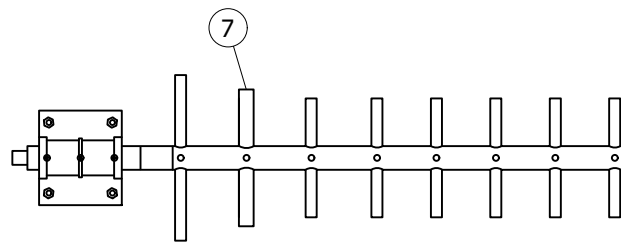

FIGURE 2
- (b) SEE UG4510.1 FIGURE 2.
- (a) SEE UG4510, FIGURE 2.